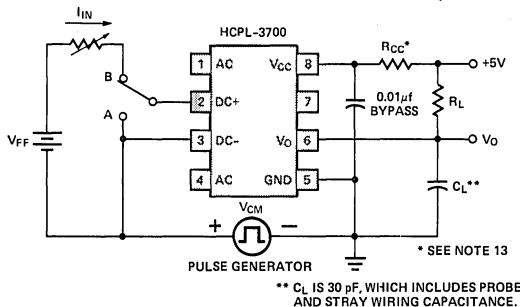

Figure 10. Test Circuit for Common Mode Transient Immunity and Typical Waveforms.
12. Common mode transient immunity in Logic High level is the maximum tolerable (positive) dV_{CM}/dt on the leading edge of the common mode pulse, V_{CM} , to ensure that the output will remain in a Logic High state (i.e., $V_O > 2.0\text{V}$). Common mode transient immunity in Logic Low level is the maximum tolerable (negative) dV_{CM}/dt on the trailing edge of the common mode pulse signal, V_{CM} , to ensure that the output will remain in a Logic Low state (i.e., $V_O < 0.8\text{V}$). See Figure 10.